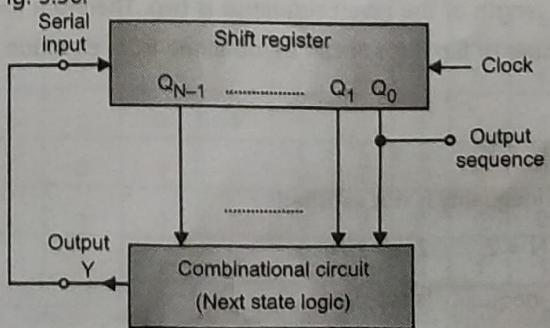

Fig. 3.56 : Block diagram for sequence generator
- For this type of sequence generator shift register is used as the basic building block. The block diagram of it is as shown in Fig. 3.56.
- As shown in Fig. 3.56, a Serial In Parallel Out (SIPO) shift register is used.